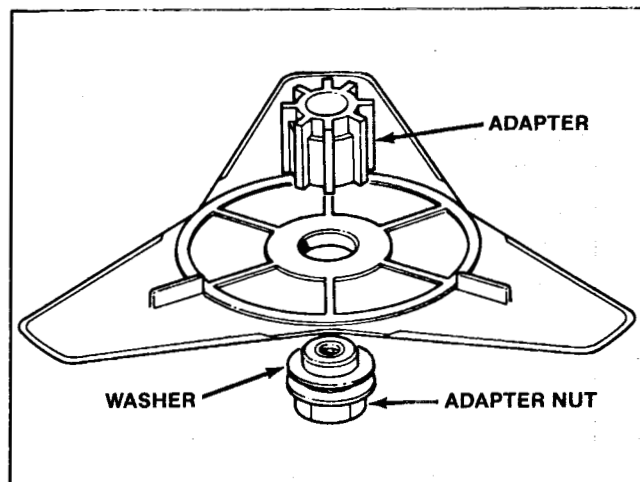

Figure 116
1. Mount the blade adapter, the Flex Blade and the washer on the drive shaft. See Fig. 116.